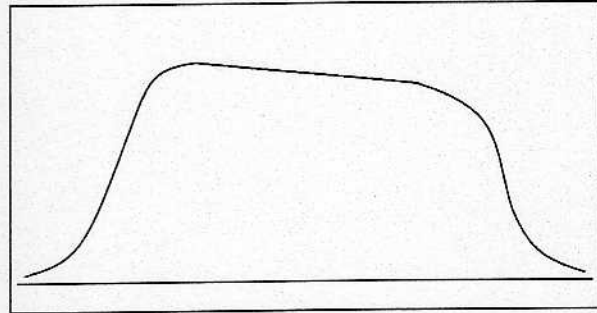

Fig. 23
- i) Increase the drive power to the IOT until the beam current is 1.5 A. This may result in the liberation of a small quantity of gas, which will be removed by the ion pump. This will result in a frequency shift of the tuned response because of the change in beam impedance (see Fig. 23). If the ion current exceeds  $2 \mu\text{A}$ , do not increase the drive power until this has been reduced to below  $2 \mu\text{A}$ .